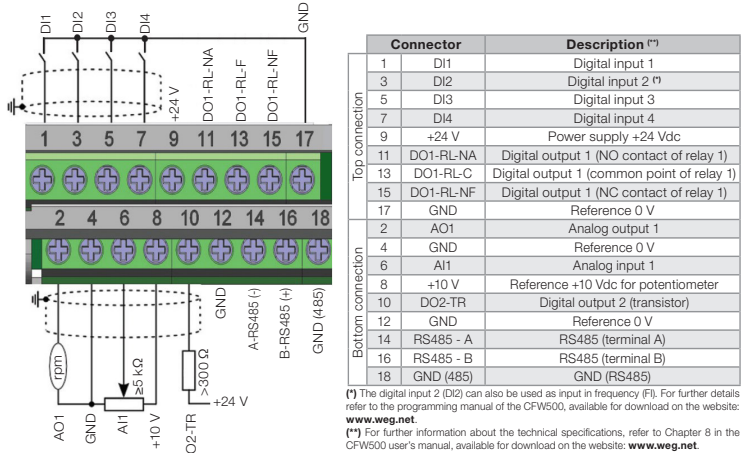

Figure 5: Signals of the connector of the CFW500-IOS plug-in module
- In order to meet UL requirements, use ultra fast (for frame sizes A, B, C and F), and use fuse type J or circuit breaker (for frame sizes D and E) fuses at the inverter supply with a current not higher than the values presented in Figure 5.
The control connections (analog input/output, digital input/output and interface RS485) must be performed according to the specification of the connector of the plug-in module connected to the CFW500. Refer to the guide of the plug-in module in the package of the product. The typical functions and connections for the CFW500-IOS standard plug-in module are shown in Figure 5.